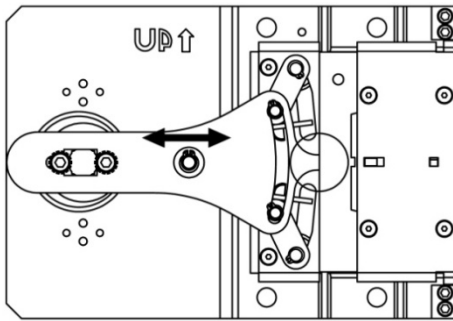

Figure 14: Adjusting the drive bar (5)
Once the adjustment is made via the on-site control system, the drive bar should be correctly positioned (5), by moving it until the tip of the drive bar is properly aligned with the safety gear block, as shown in Figure 14.